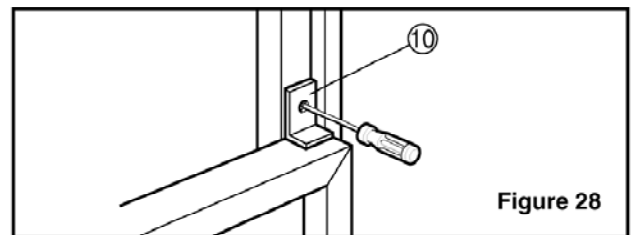

Figure 28
12. Attach the window locking bracket ⑩ with a type C screw. (See Fig. 28)